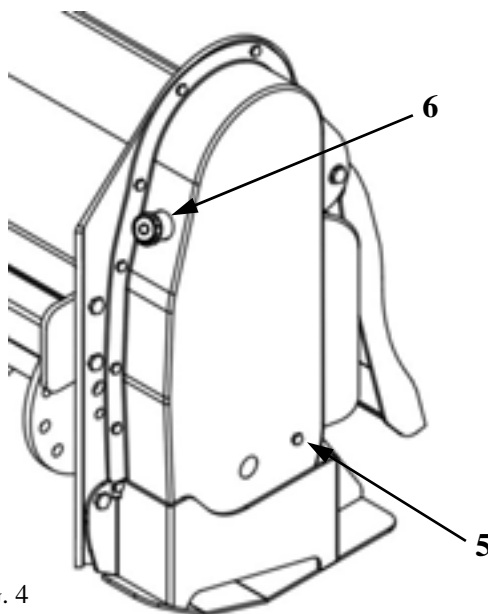

FIG. 4
- Check oil level in the gear cover by unscrewing the oil level plug (5 in fig. 4). If you need to add oil, unscrew the filler plug (6 in fig. 4) and fill in the cover until it starts running out of the level hole.